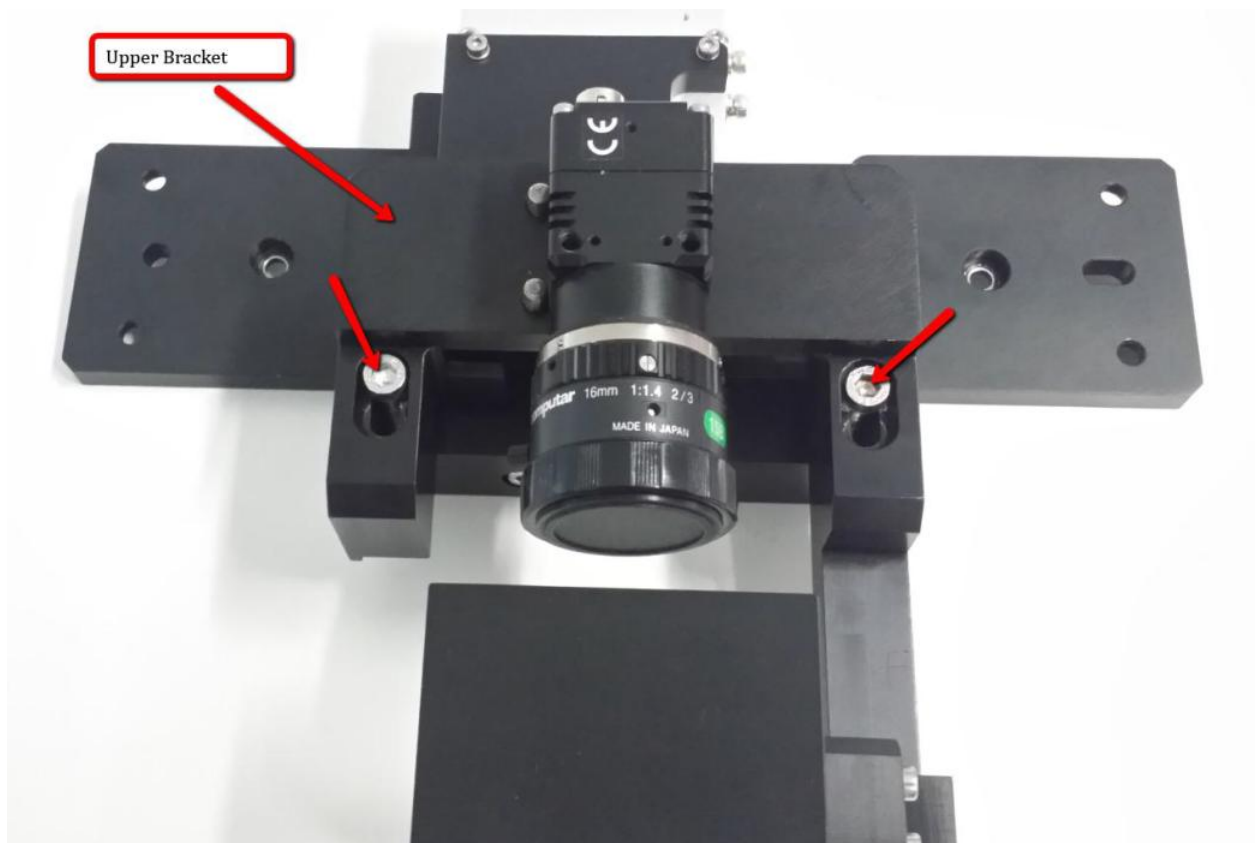

Figure 2 Upper Bracket Removal
2. Loosen both screw (M5 X 30) and remove the upper bracket as Figure 2.